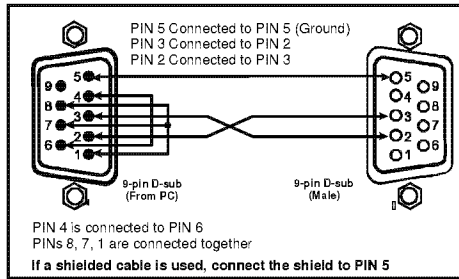

Figure 3: Connecting a PC without using a Null-modem Adapter
- Connect the RS-232 9-pin D-sub port on your PC to the RS-232 9-pin D-sub rear panel port on the Master **FC-41** unit, as Figure 3 illustrates